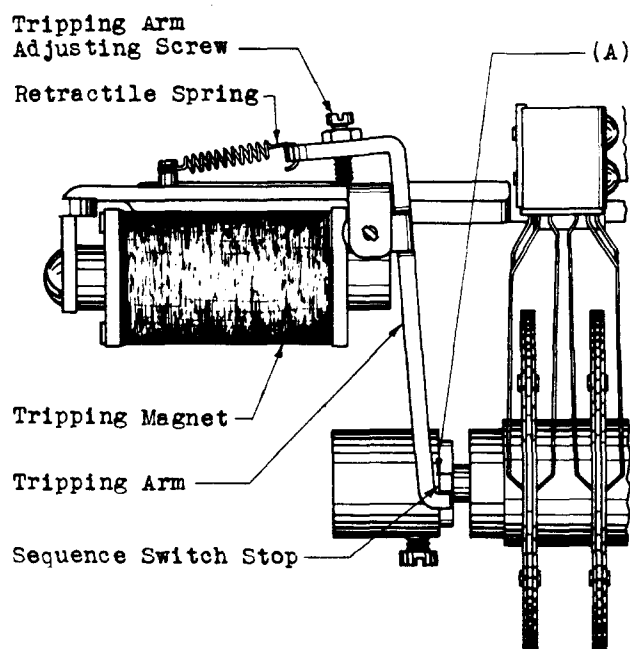

Fig. 8
2.13 Tripping Arm Position: Fig. 8(A) — When the sequence switch is rotating and the tripping arm is in the normal position, the sequence switch stop shall not rub on the side of the tripping arm before it engages the tooth of the arm.